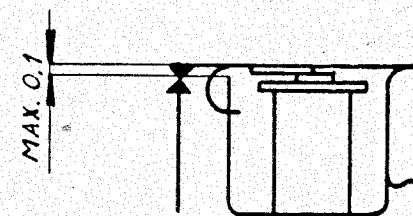

Fig. 80.
1. Adjust the armature of the switch in such a way that it makes contact with its center with the core over a stop plate whereby the gap between the front part of the armature and the yoke should not exceed 0.1 mm (Fig. 80).